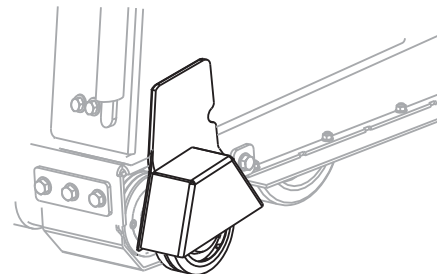

Figure 19. Flange Guard Installed
1. Slide the flange guard onto the guard mounting tab on the frame (Figure 19).